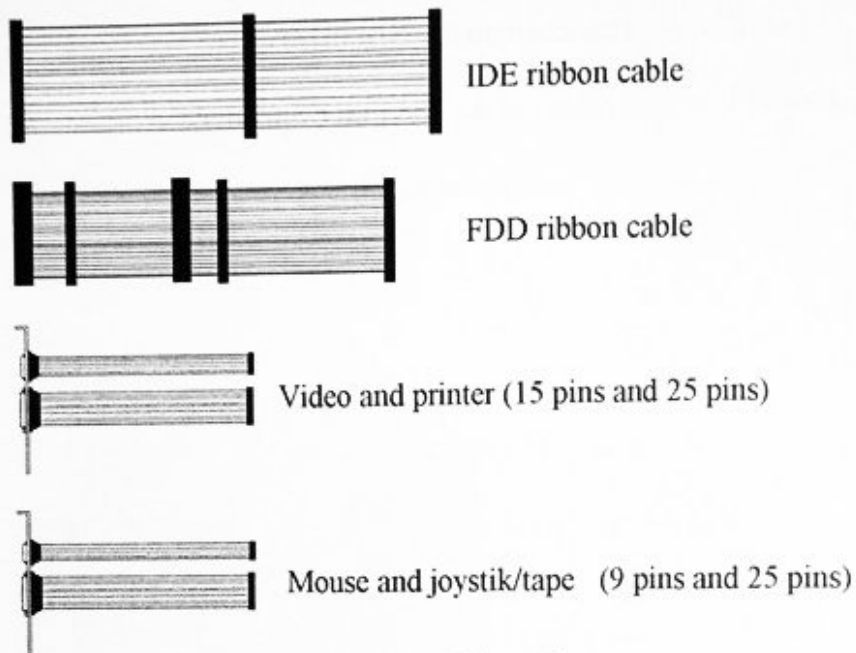

Figure 2.
8. Standard package include (figure 2) another five ribbon cables.
12. Put the FDD and the HDD in the case and fix it. Connect the ribbon cables of the FDD and the HDD (fig. 2). You should be sure that use correct numbering of contacts indicated on the FDD and the HDD.